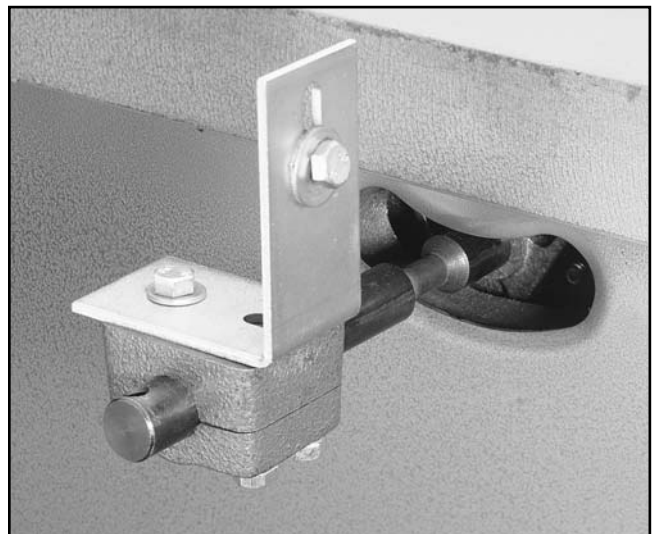

Figure 6.
2. Secure the shaft with the hex nut provided. **Figure 6.**